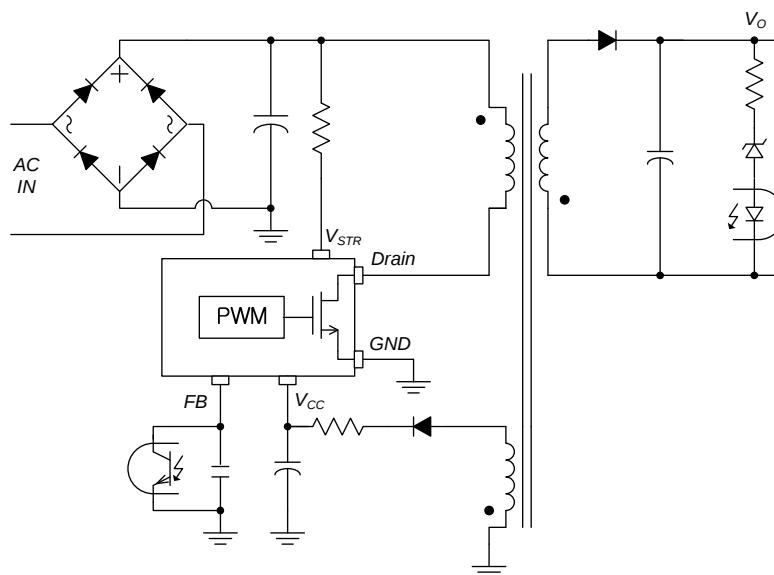

Figure 1. Typical Application Circuit
- Repetitive peak switching current when the inductive load is assumed: Limited by maximum duty ($D_{MAX}=0.74$) and junction temperature (see Figure 1).